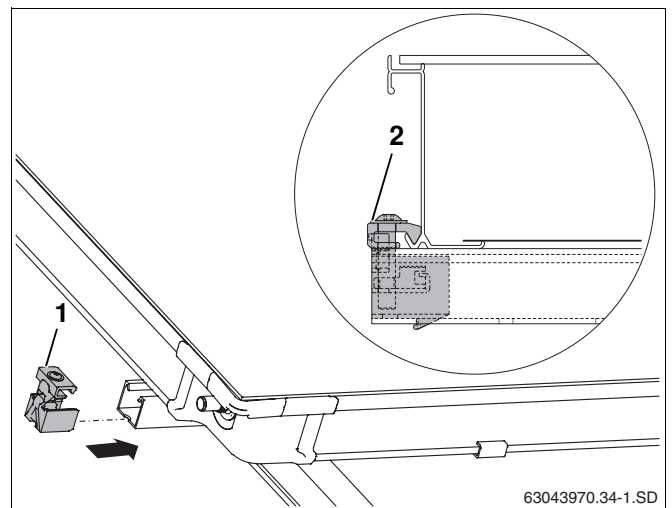

Fig. 52 Single-sided collector clamp (left)
- Push single-sided collector clamp (Fig. 52, **Item 1**) into upper and lower profile rails.
- Push collector clamp up against the collector frame and screw in place using size 5 spanner (Fig. 52, **Item 2**).
The grip (Fig. 52, **Item 2**) on the collector clamp now grips the lower collector edge.